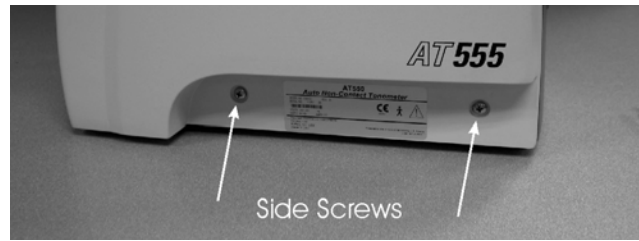

Figure AS-1. Lower Side Cover Screws
2. Install one of the side covers and secure it with the bottom side screws. Install the other side cover and secure it with the bottom side screws. Refer to Figure AS-1.